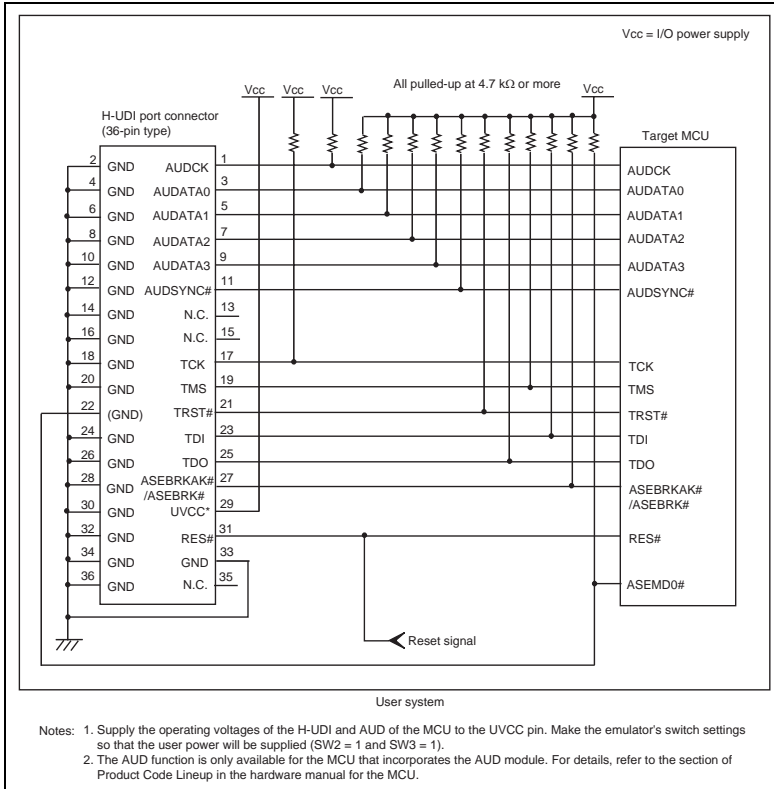

Figure 1.3 Recommended Circuit for Connection between the H-UDI Port Connector and MCU when the Emulator is in Use (36-Pin Type)
Figure 1.3 shows a recommended circuit for connection between the H-UDI and AUD port connectors (36 pins) and the MCU when the emulator is in use.
- (1) When the emulator is used: ASEMD0# = 0
- (2) When the emulator is not used: ASEMD0# = 1Figure 1.3 shows an example of circuits that allow the ASEMD0# pin to be GND (0) whenever the emulator is connected by using the user system interface cable. When the ASEMD0# pin is changed by switches, etc., ground pin 22 of the H-UDI port connector. Do not connect this pin to the ASEMD0# pin.
7. The resistance value shown in figure 1.3 is for reference.
When the circuit is connected as shown in figure 1.3, the switches of the emulator are set as SW2 = 1 and SW3 = 1. For details, refer to section 3.8, Setting the DIP Switches, in the SuperHT™ Family E10A-USB Emulator User's Manual.